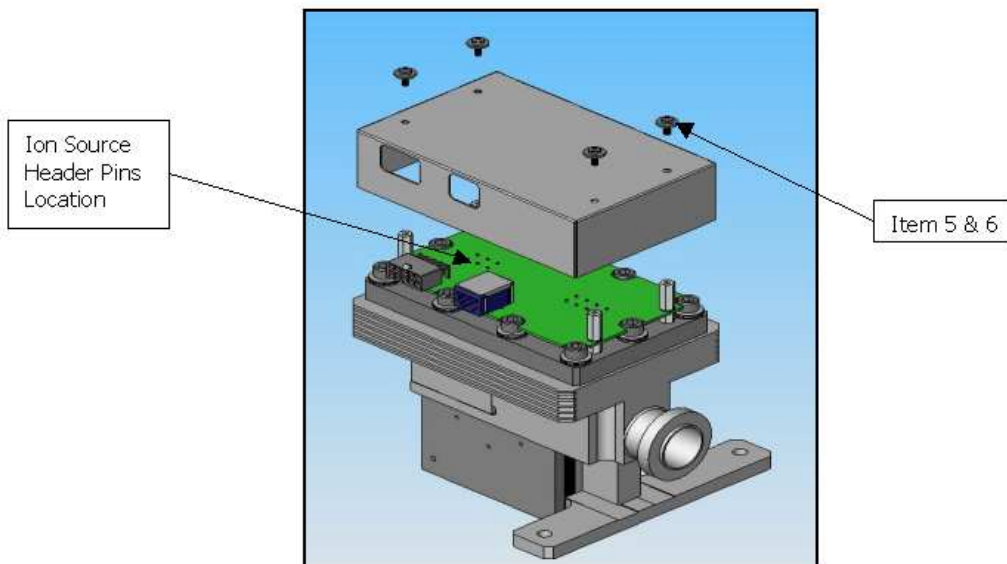

Figure 12: Ion Source Header Pin Locations
26. Place the spectrometer cover over the header and align the holes (Figure 12: Ion Source Header Pin Locations).
27. Install screws and washers (items 5 & 6), then tighten using a M3 Phillips screw driver (Figure 12: Ion Source Header Pin Locations).